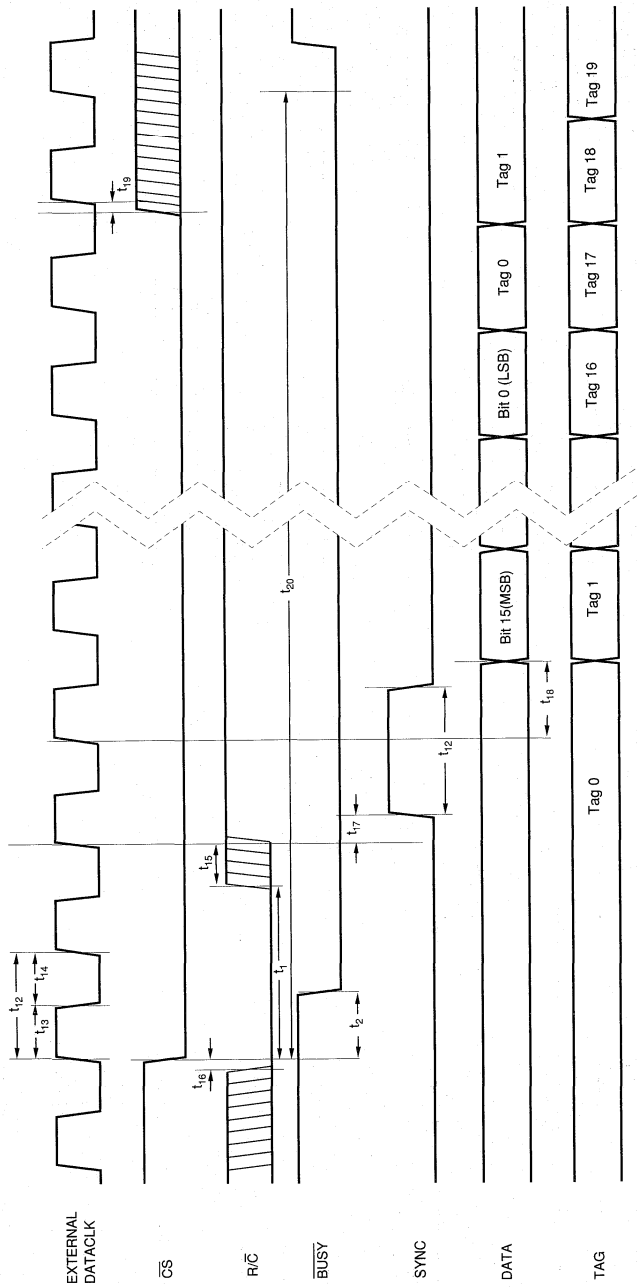

FIGURE3b. Conversion and Read Timing with External Clock. (EXT/INT Tied HIGH.) Read During Conversion (Previous Conversion Results).
NOTE: (1) See Figure 3b for constraints on previous data valid during conversion.